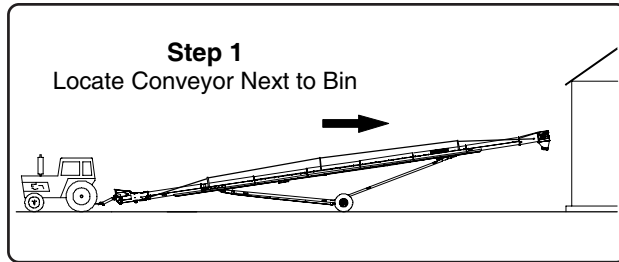

Fig. 5
1. Move the conveyor into its working position with a towing vehicle (See Fig. 5). Locate the conveyor as close as possible to the bin, or other storage structure (**move conveyor slowly towards the bin with the towing vehicle - not by hand**).